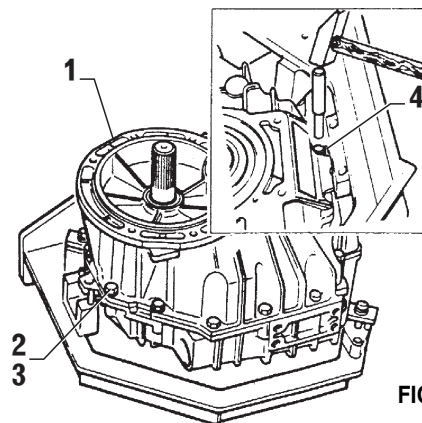

FIG. 5-3
- Mount "input" housing half (item 1, Fig. 5-3) with all bolts, lock washers (item 2 and 3, Fig. 5-3) and parallel pins (item 4, Fig. 5-3).